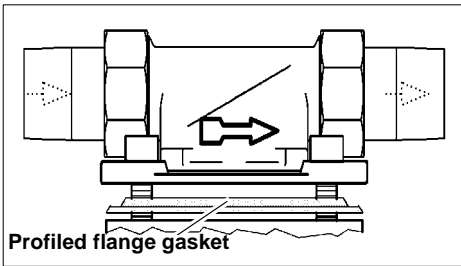

Fig. 5: Built-in rotary flange
**The built-in rotary flange must be installed in the direction of flow. This is marked by a cast-in arrow (see Fig. 5).**
The section of the profiled flange gasket must point towards the built-in rotary flange. Failure to observe this can lead to leaks and water escaping. This can in turn cause water damage to the house and its installations (see Fig. 5).